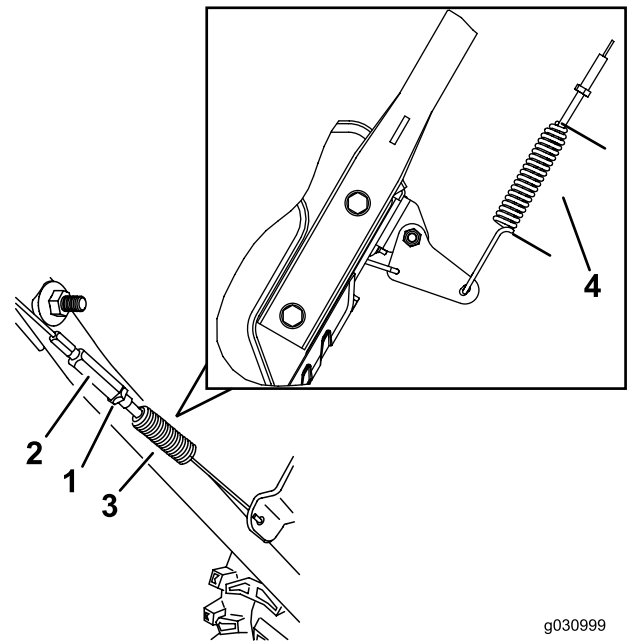

Figure 27
4. Tighten the jam nut (Figure 27), ensuring that there is slight tension on the cable.
3. Loosen or tighten the turnbuckle to adjust the spring length to 5.5 cm (2–3/16 inches) as shown in Figure 27.